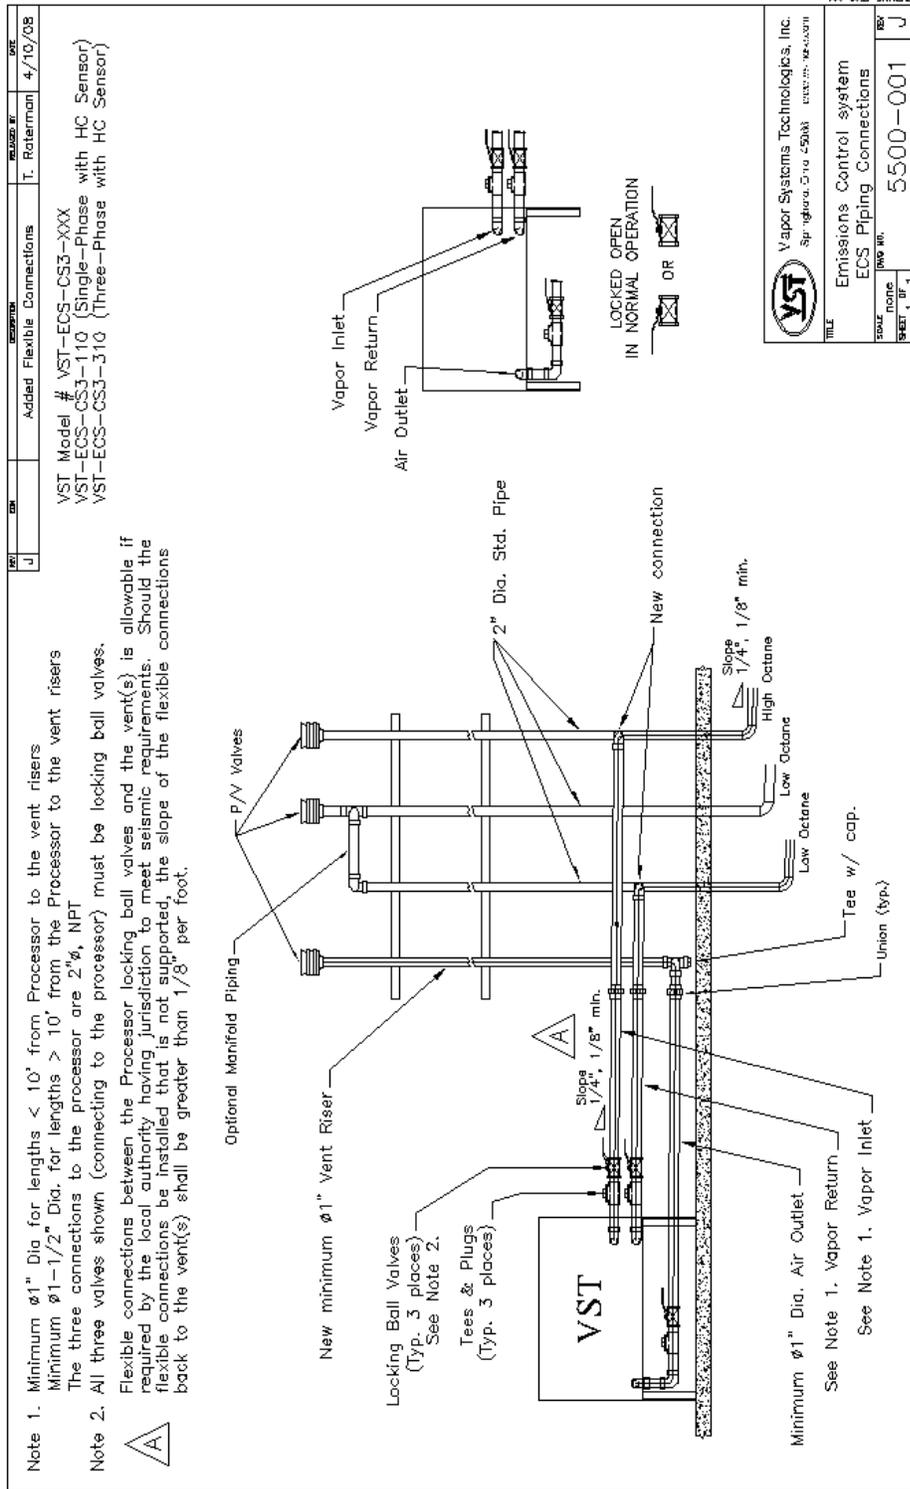

Figure 17: ECS Processor Piping Diagram
- See Figure 17: Page 14-X for pipe size requirements.
- The tee and the ball valve allow for isolation of the *Processor* from the vapor-piping system for maintenance and testing. See Figure 17: Page 14-52
See Figure 17: Page 14-52.